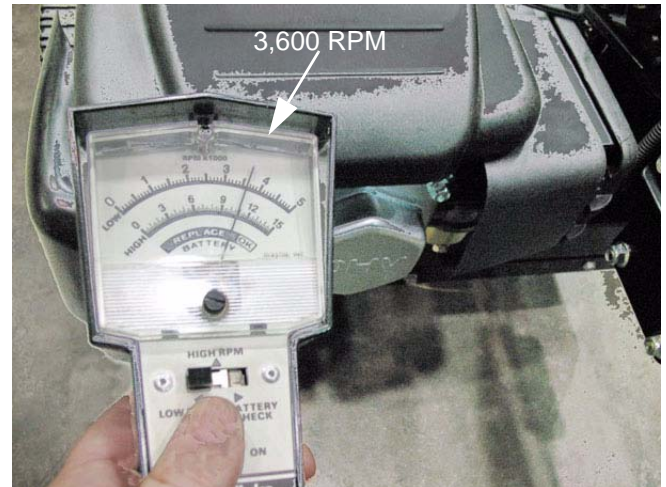

Figure 3.8
5.1. Engine performance See Figure 3.8.